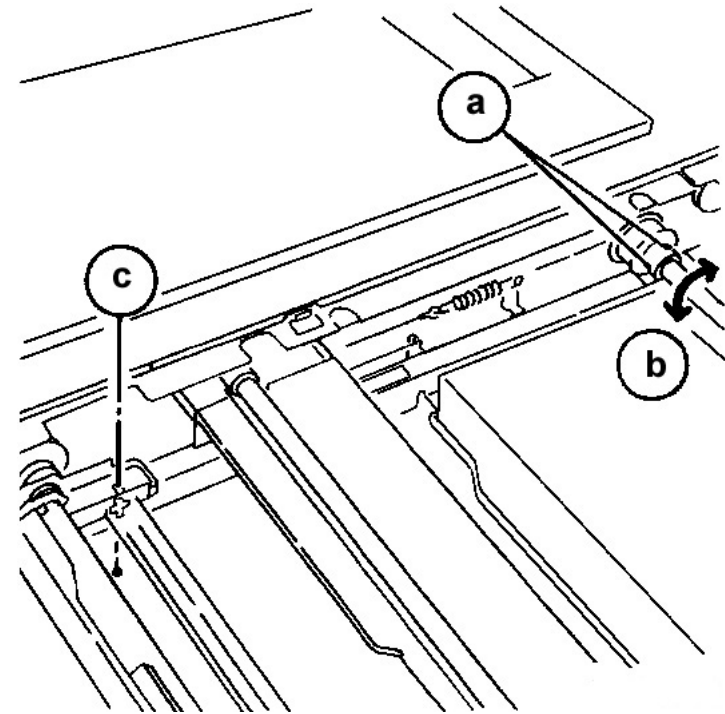
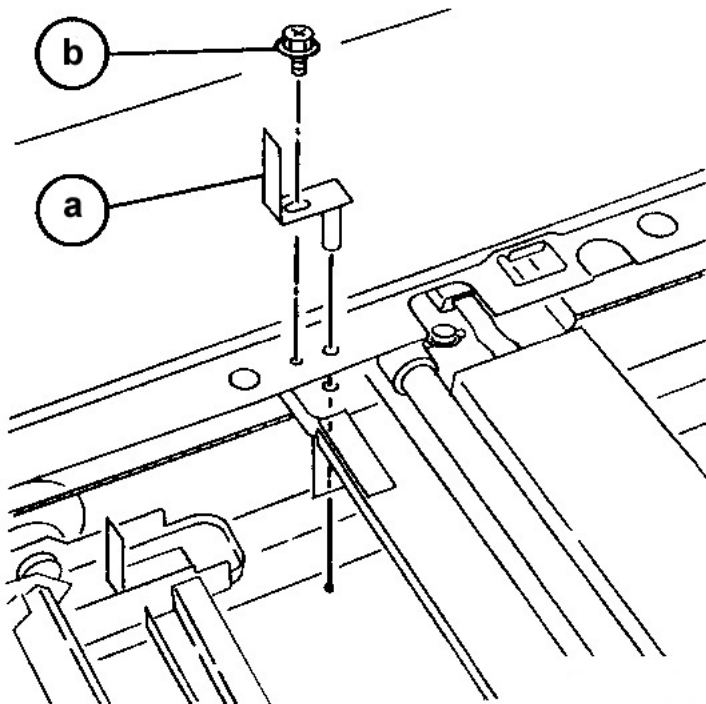

Figure 4 Adjusting Capstan Pulley to enable locating hole alignment
Figure 5 Installing the alignment tools in the Full Rate Carriage
9. Change the position of the Capstan Pulley, if the rear locating holes of the Half Rate Carriage and adjoining rail cannot be aligned (and the alignment tool cannot be installed). Figure 4
- a. Loosen (2) set screws on the Capstan Pulley.
- d. Resecure (2) set screws on the Capstan Pulley.
10. Check that the locating holes in the top frame of the IIT can be aligned with the holes in the Full Rate Carriage. Figure 5